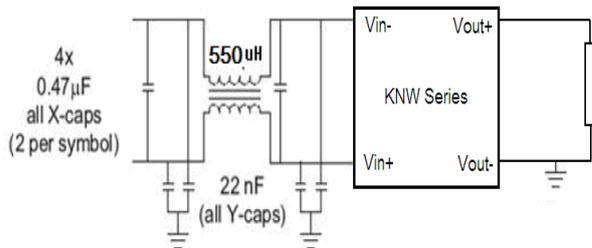

**Figure 13. Trefx Temperature Measurement Location.**
To provide protection under certain fault conditions, the unit is equipped with a thermal shutdown circuit. The unit will shutdown if the thermal reference point  $T_{ref}$  (Figure 13), exceeds 128-133°C (typical) depending on  $T_A$  and airflow, but the thermal shutdown is not intended as a guarantee that the unit will survive temperatures beyond its rating. The module can be restarted by cycling the dc input power for at least one second or by toggling the remote on/off signal for at least one second. If the auto-restart option (4) is ordered, the module will automatically restart upon cool-down to a safe temperature.
The thermal reference points,  $T_{ref}$ , used in the specifications are shown in Figure 13. For reliable operation, the temperature of both  $T_{ref}$  points should not exceed 125°C.